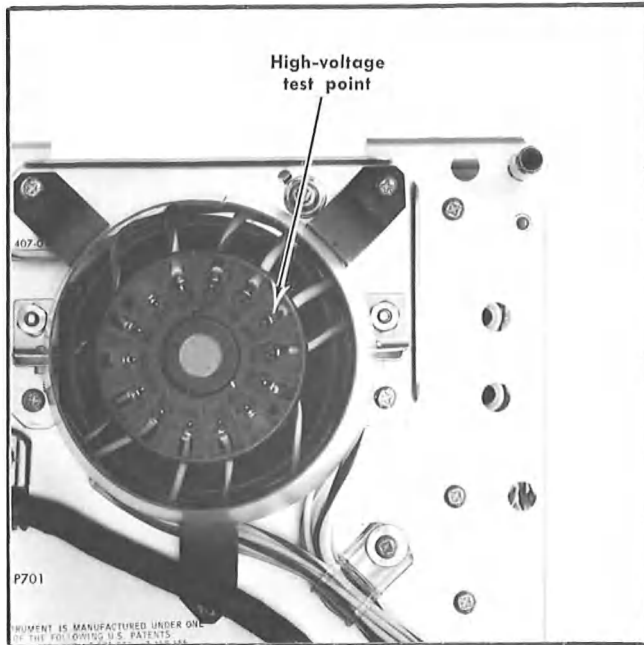

Fig. 5-7. Location of high-voltage test point (rear panel, socket cover removed).
b. Connect the DC voltmeter (VOM) from the high-voltage test point (pin 3 of CRT socket, see Fig. 5-7) to chassis ground.